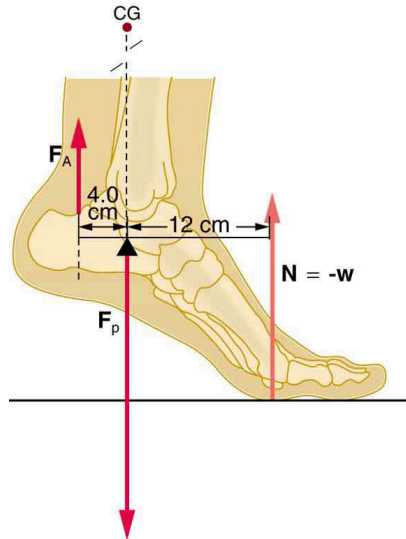

FIGURE 9.40 The muscles in the back of the leg pull the Achilles tendon when one stands on one's toes. A simplified lever system is shown.
33. A 75-kg man stands on his toes by exerting an upward force through the Achilles tendon, as in Figure 9.40. (a) What is the force in the Achilles tendon if he stands on one foot? (b) Calculate the force at the pivot of the simplified lever system shown—that force is representative of forces in the ankle joint.